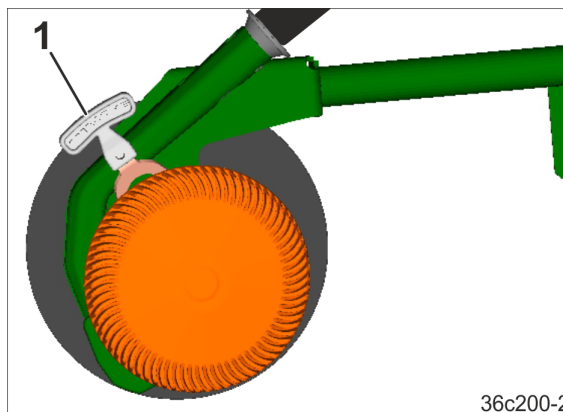

Fig. 179
2. Insert the shoulder of the depth control disc/wheel into the required hole. The lever (Fig. 179/1) is used to actuate the depth control disc/wheel.